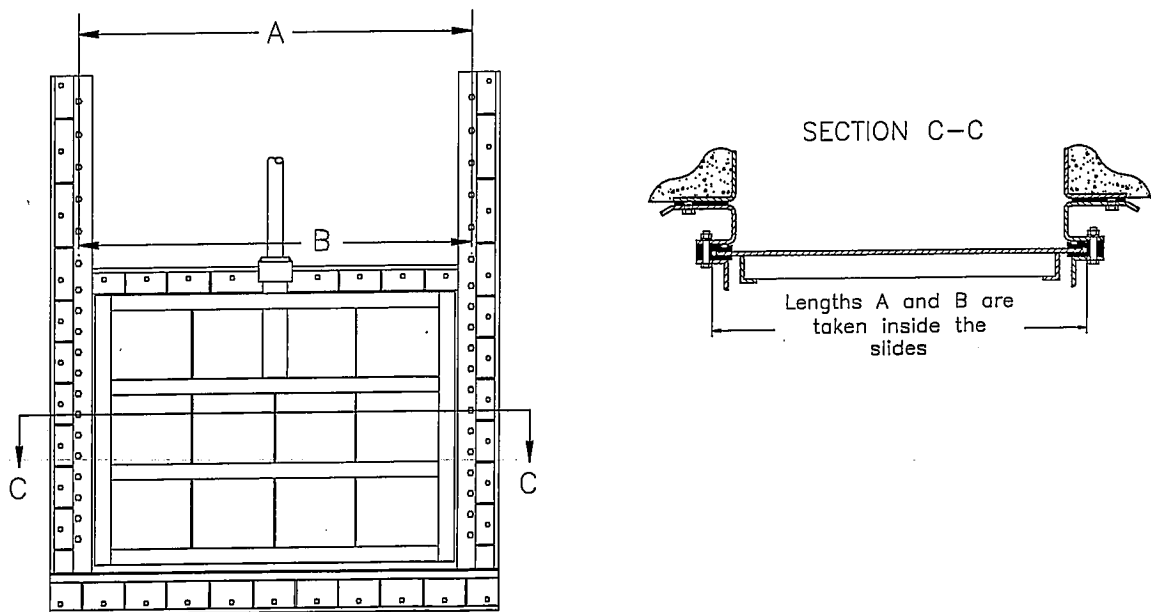

FIGURE 1
- 3) Check for gate warping. Make sure the upper slide rails are parallel as shown in figure 1. Length A should be equal or up to 3mm (1/8") longer than B.
- 7) Partially tighten the four (4) corner nuts.
- 8) Evenly tighten the nuts on the sides, upper and lower parts of the gate according to the torque in Table 1. Proceed according to the tightening pattern (see figure 1) until an even torque is obtained.